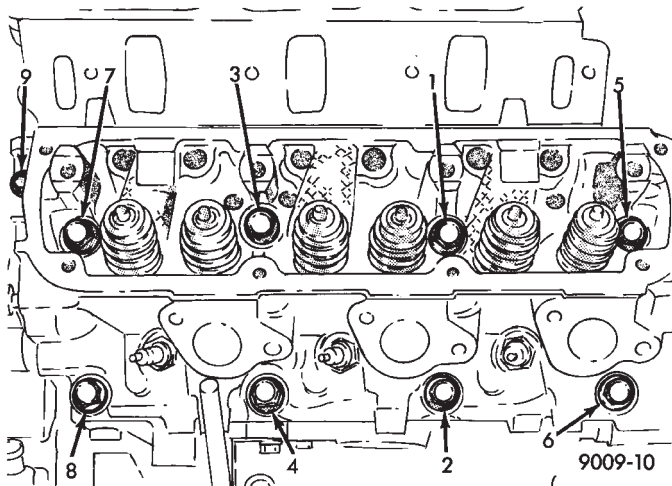
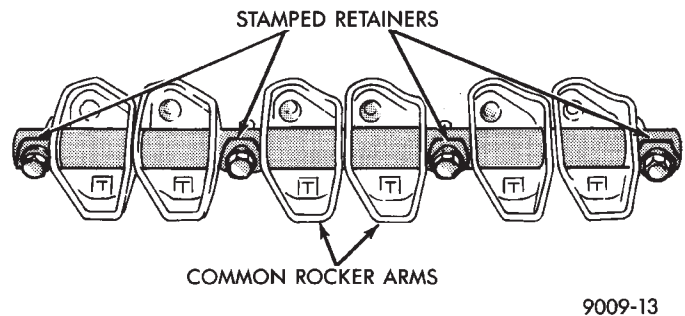

Fig. 31 Cylinder Head Bolts Location and Tightening Sequence
Fig. 34 Rocker Arm Shaft Retainers
(5) Tighten the cylinder head bolts 1 thru 8 in the sequence shown in (Fig. 31). Using the 4 step torque turn method, tighten according to the following values:
(6) Tighten head bolt number 9 (Fig. 31) to 33 N·m (25 ft. lbs.) after head bolts 1 thru 8 have been tightened to specifications.
(7) Inspect push rods and replace worn or bent rods.
(8) Install push rods, rocker arm and shaft assemblies with the stamped steel retainers in the four positions, tighten to 28 N·m (250 in. lbs.) (Fig. 34).
(9) Place new cylinder head cover gaskets in position and install cylinder head covers. Tighten to 12 N·m (105 in. lbs.).